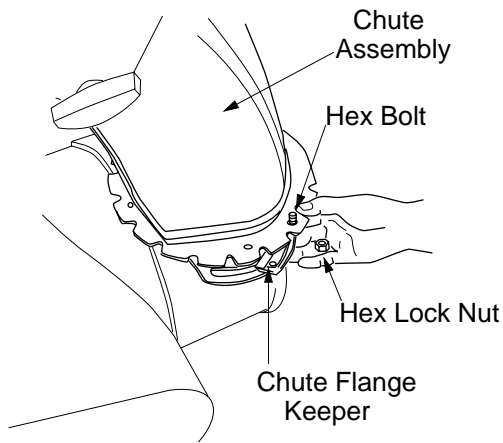

Figure 11
2. Insert hex bolt (K) up through chute flange keeper and chute assembly as shown in Figure 11. Secure with hex lock nut (M). After assembling all three chute flange keepers, tighten all nuts and bolts securely. Do not overtighten.